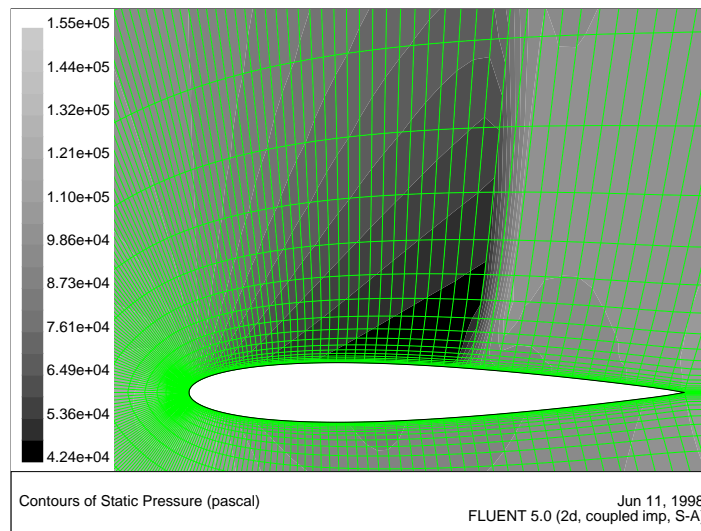

Figure 2.4: Pressure Contours After 100 Iterations
- v. Zoom in on the airfoil (Figure 2.4).